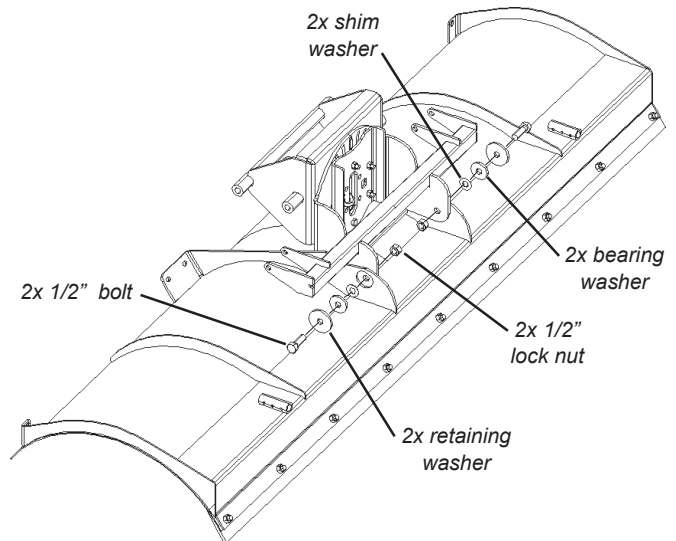

Figure 3 Attach Plow Base to Blade
5. Lie the plow face down on the ground. Place the plow base between the two center ribs of the plow as shown in figure 3. Attach the plow blade to the plow base by running a 1/2" dia bolt through the large retainer washer, bearing washer, shim washer, the plow blade rib, and then the plow base. The bearing washer should rest inside the large hole in the side of the plow. Terminate with a 1/2" dia lock nut. Back off the torque if the plow blade doesn't rotate freely around the plow base.